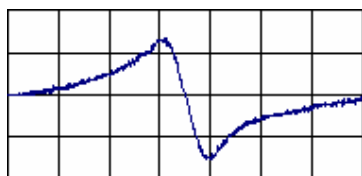
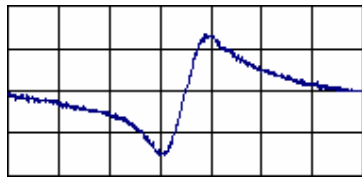

Figure 3: Reluctor Waveform (correct)
Figure 4: Reluctor Waveform (inverted, incorrect)
Reluctor sensors generate a voltage spike. The voltage across the reluctor coil normally sits at zero Volts. As the tooth approaches the pickup, the voltage increases. The peak voltage will be somewhere between 0.5V and 50V, depending on engine speed and the type of reluctor. When the tooth passes the middle of the pickup, the voltage suddenly swings negative. As the tooth recedes from the pickup, the voltage increases back to zero. See Figure 3.
- Make sure that the polarity is as shown in Figure 3. If the waveform is inverted, the ECU will not trigger reliably from the pulse. If the reluctor has all the wires coming out of it (eg 3 coils would require 6 wires), then it should be possible to reconnect the common to the other side of the coils. Most reluctors are not of this type, however Honda use inverted outputs (as shown in Figure 4).